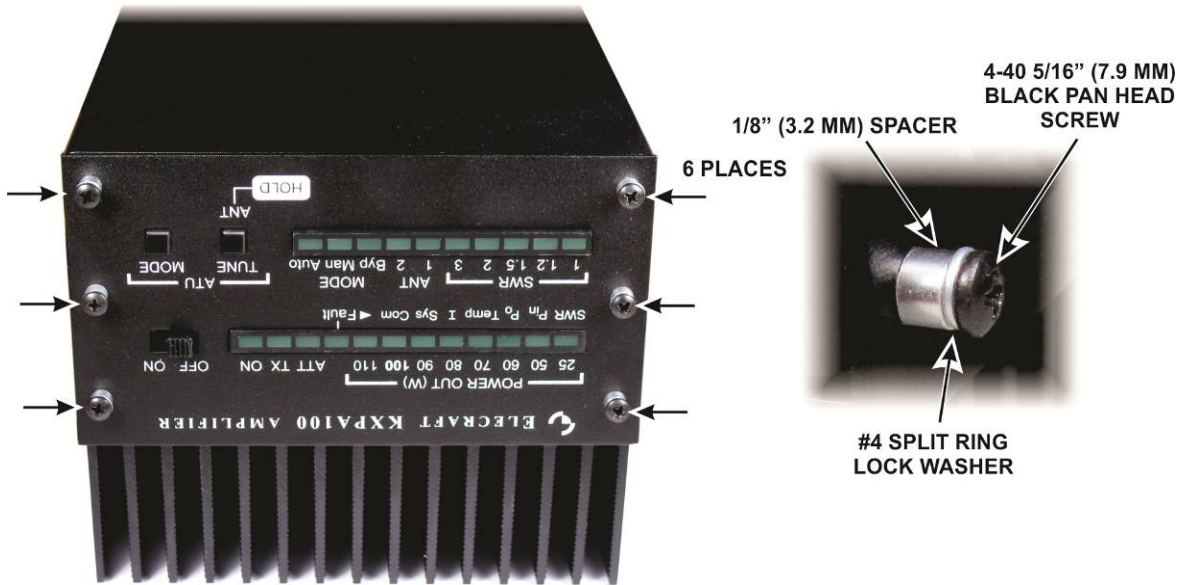

Figure 21. Mounting the Front Panel.
□ Position the front panel so the LEDs, OFF/ON, TUNE and MODE switches fit through the openings. Secure the front panel with screws, lock washers and spacers just as you did on the rear panel (see Figure 21).